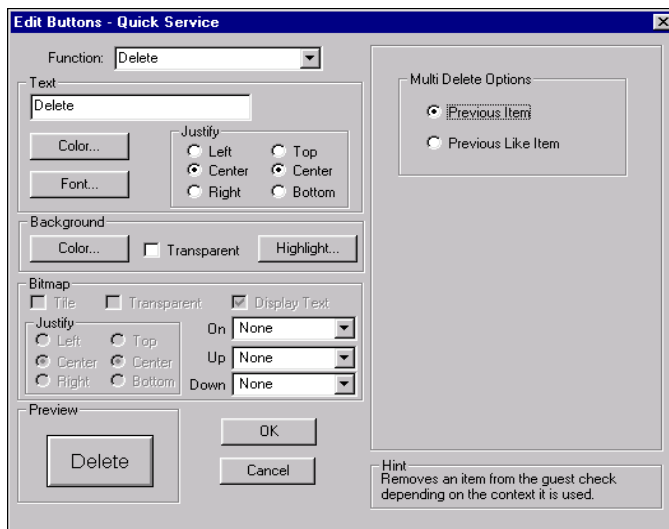

Figure 5-82 Delete Button Function
1. Select **Delete** from the **Function** drop-down list. An additional option displays, as shown in Figure 5-82: